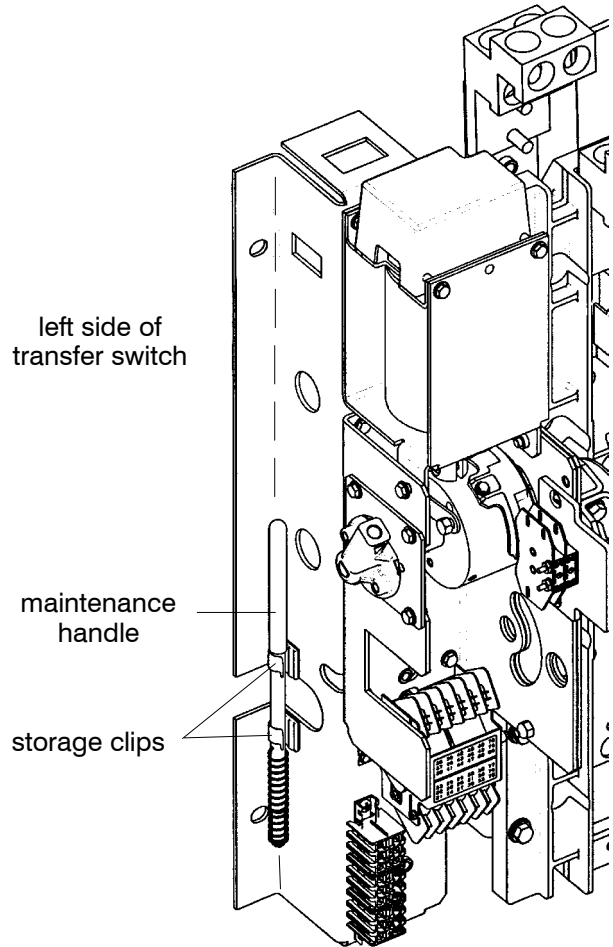

Figure 1-3. Maintenance handle and its storage clips.
- After deenergizing both power sources, open the enclosure door. Locate and remove the maintenance handle from the clips on the left side of the transfer switch frame. Insert the handle into the hole in the molded hub on the left side of the operator. See Figures 1-3 and 1-4 and Table B.